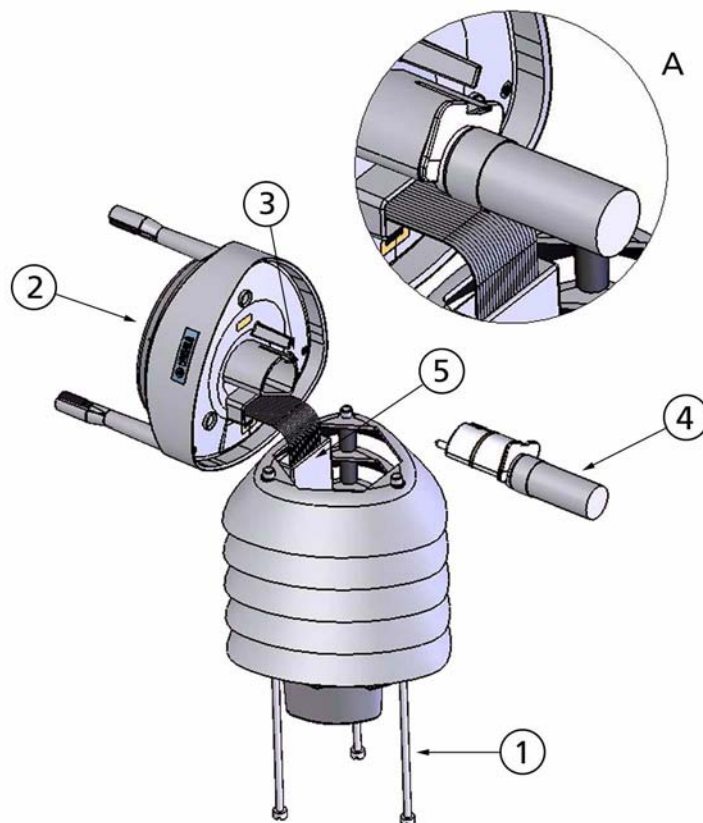

Figure 26 Replacing the PTU Module
3. Release the small white latch (see section A in Figure 26 on page 130) and remove the PTU module.